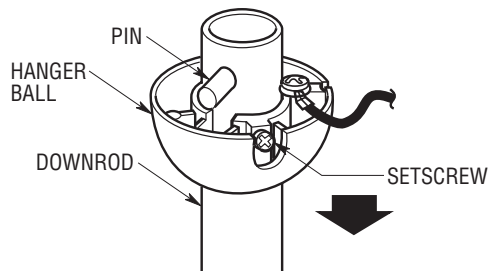

Figure 6
- 14. Obtain the hanger ball/downrod assembly and remove the hanger ball by loosening the setscrew in the hanger ball until the ball falls freely down the downrod (Figure 6). Remove the pin from the downrod, then remove the hanger ball. Retain the pin and hanger ball for reinstallation in Step 25. Discard the 12" downrod if using the 6" downrod.